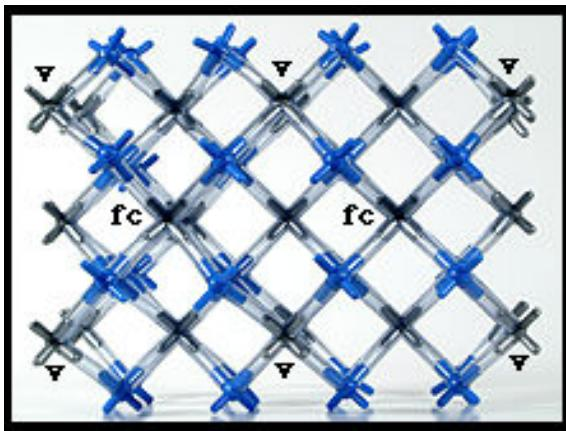

Fig. 12 Completed crystal model with two side-by-side unit cells. The labels indicate calcium ions in the same plane. v=vertex ion; fc=face centered ion.
10. To complete the crystal model, bond each fluoride to a calcium ion closest to it. Make sure that the bond is not distorted (bent). See Fig. 12.